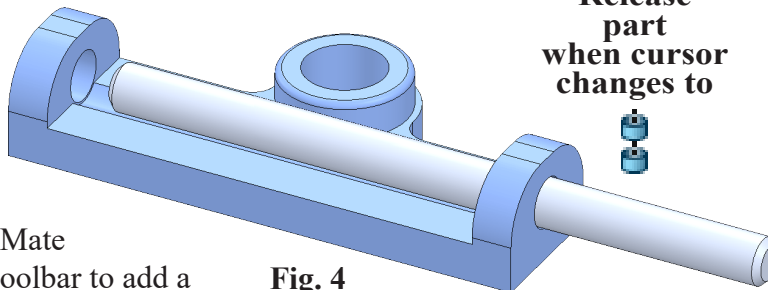

Fig. 4
Step 7. Position **Axle near Axle hole**, **Fig. 4**. When Axle snaps to Axle hole and cursor changes to indicate a Concentric mate , click to release Axle.